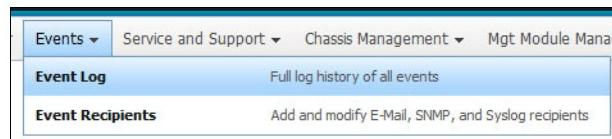

Figure 7-8 CMM Events drop-down menu
- ▶ Events, as shown in Figure 7-8